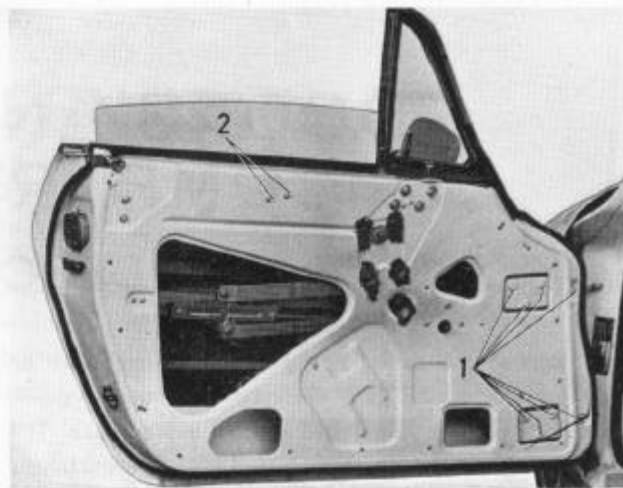

Fig. 8-12. Door inside
holstery according to the instructions in the previous section. Then undo the bolts (1, Fig. 8-12) and the door can be drawn outwards from the hinges.
1. Remove the stop for the winding window upper position (1, Fig. 8-12).